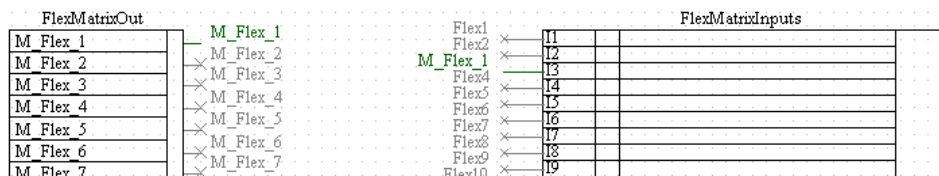

Figure 198 – Binding of programmable logic markers
b) using combination CTRL+SHIFT and left mouse button select the necessary element input marker. The marker is bound (figure 198).